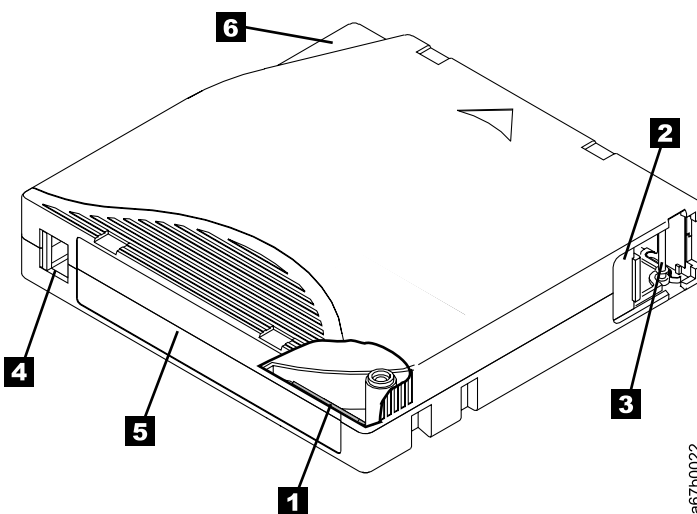

Figure 7. The IBM TotalStorage LTO Ultrium 200 GB Data Cartridge
Figure 7 shows the IBM TotalStorage LTO Ultrium 200 GB Data Cartridge and its components.
Both generations of the IBM LTO Ultrium Data Cartridges include a Linear Tape-Open Cartridge Memory (LTO-CM) chip ( **1** in Figure 7 on page 25), that contains information about the cartridge and the tape (such as the name of the manufacturer that created the tape), as well as statistical information about the cartridge's use. The LTO-CM enhances the efficiency of the cartridge. For example, the LTO-CM stores the end-of-data location which, when you next insert a cartridge and issue the Write command, enables the drive to quickly locate the recording area and begin recording. The LTO-CM also aids in determining the reliability of the cartridge by storing data about its age, how many times it has been loaded, and how many errors it has accumulated. Whenever you unload a tape cartridge, the tape drive writes any pertinent information to the cartridge memory. The storage capacity of the LTO-CM is 4096 bytes.
When attaching a bar code label to a tape cartridge, place the label only in the recessed label area (see **4** in Figure 7 on page 25). A label that extends outside of the recessed area can cause loading problems in the drive.
- Position the label within the recessed label area (see **5** in Figure 7 on page 25).